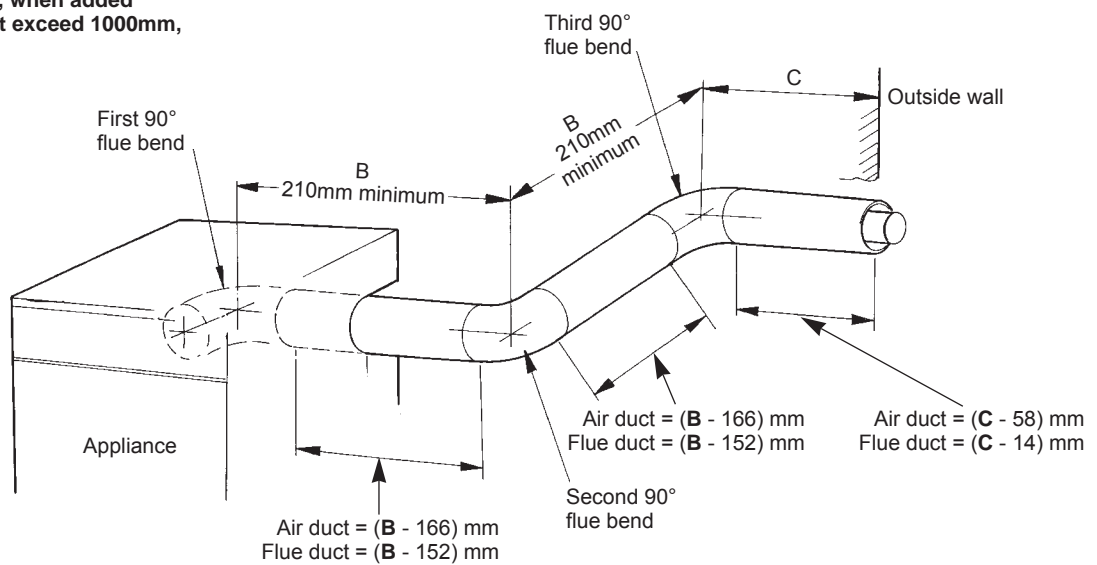

Fig. 29. Flue Option 8. Extension flue upwards and horizontal using a second and third 90° flue bend.
11.6.6. EXTENSION FLUE UPWARDS AND HORIZONTAL USING A SECOND AND THIRD 90° FLUE BEND. (FLUE OPTION 8). See Fig. 29.
Refer to Section 11.6.4 and measure Dimension B and C. See Fig. 29.